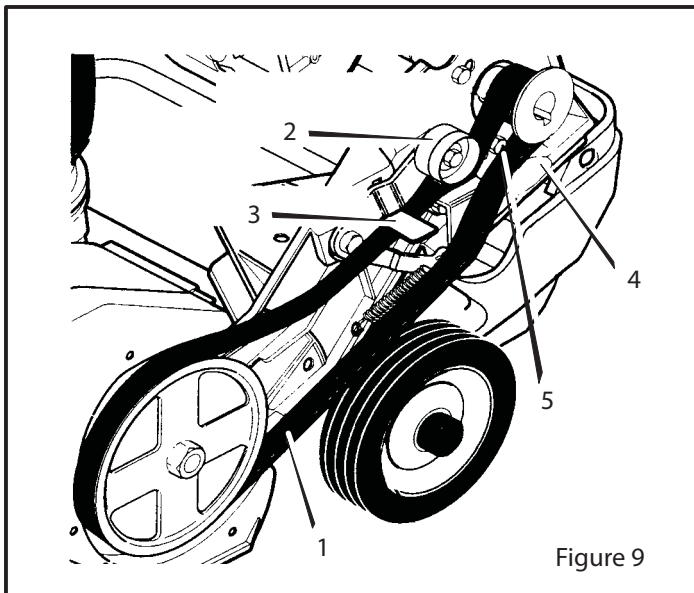

Figure 9
2. **(Figure 9)** Remove the drive belt (1) from the idler pulley (2).